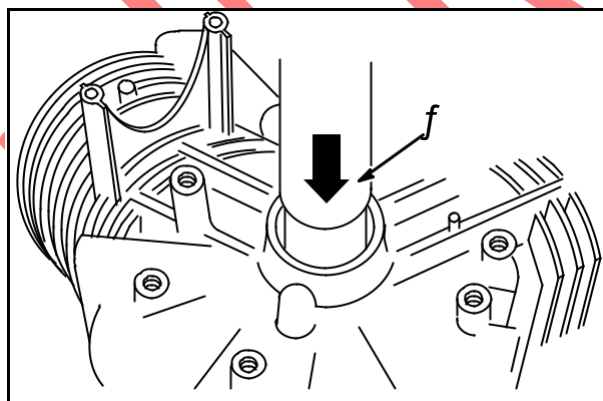

Fig. 11
Press in new bearing to correct depth with Bushing Driver **#19349** (3), **Fig. 11**.